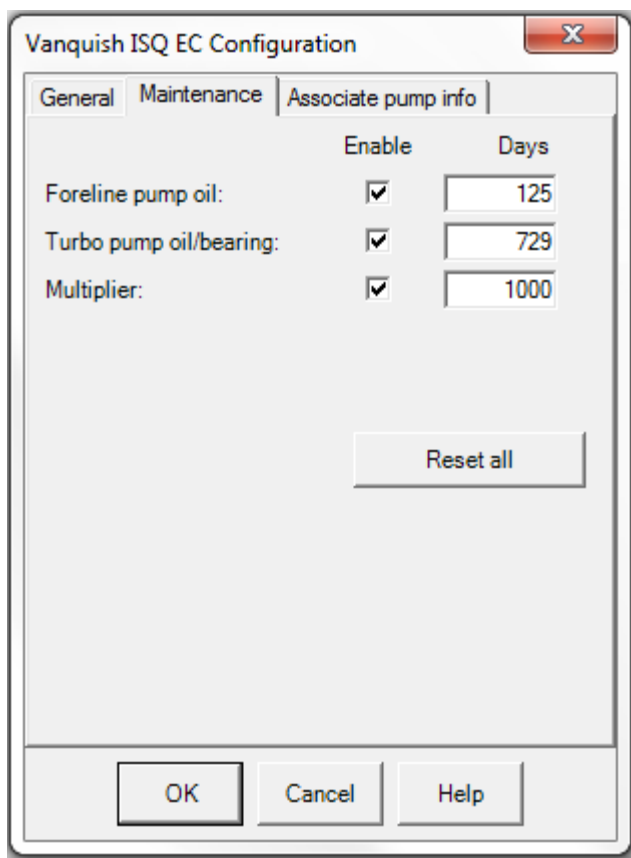

Figure 69: ISQ EC or ISQ EM MS configuration - Maintenance tab
- 24) Select the **Maintenance** tab and verify that all entries are enabled as shown in Figure 69.